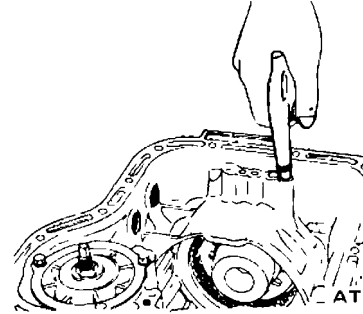

Fig. AT-90 Testing low & reverse brake
4. Blow compressed air into oil hole in low & reverse brake to test definite brake operation as shown Figure AT-90.